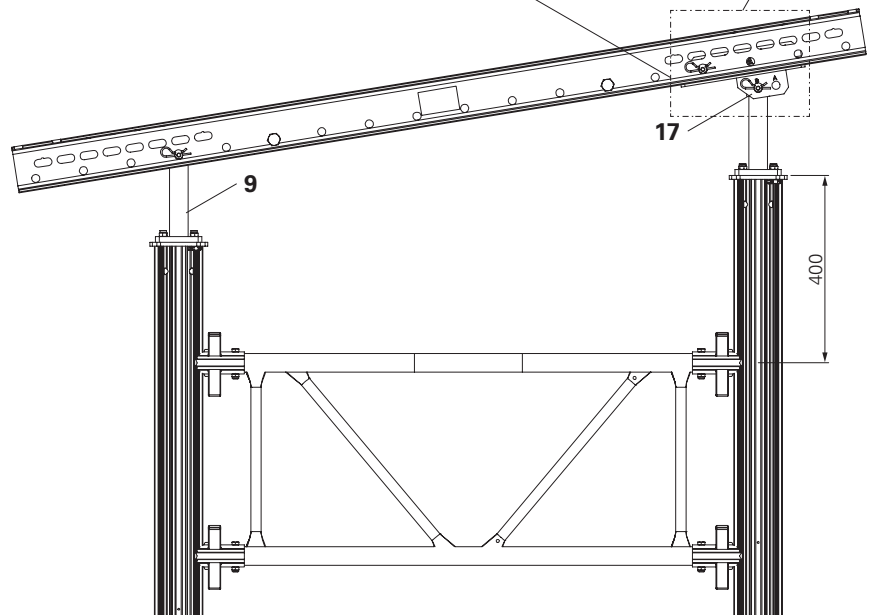

Fig. A2.12
- The Compression Brace Head MP/SRU (9) with Connector MP/SRU (17) is used to brace inclined Steel Walers SRU U120 on shoring towers. (Fig. A2.12)